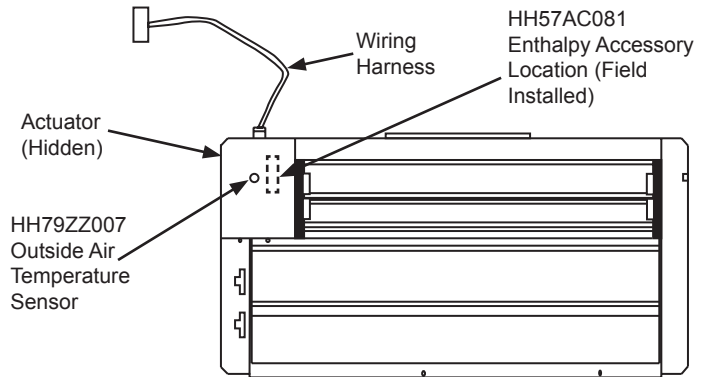

Fig. 1 - EconoMi\$er X Component Locations — (Small Cabinet Economizer Shown)
11. If EconoMi\$er X will be operating under enthalpy control, replace the factory installed HH79ZZ007 outdoor dry bulb temperature sensor with accessory enthalpy sensor HH57AC081. (See Fig. 1.)